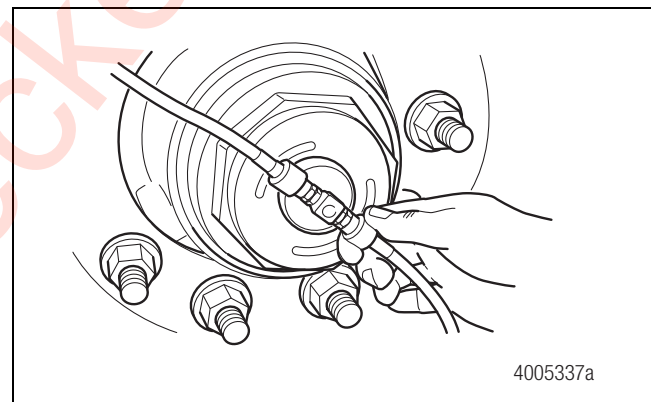

Figure 5.4
1. Remove the tire inflation system hose at the thru-tee. Figure 5.4.